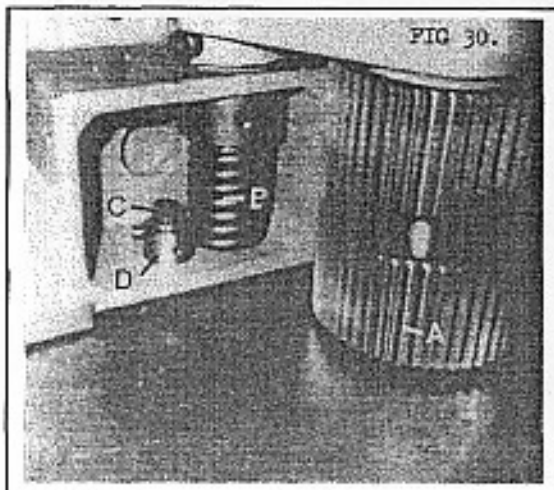

Fig 30
To adjust spring pressure on feed roller 'A' (Fig 30)
1. Loosen caphead 'C' (FIG 30)
2. Rotate cam 'D' (FIG 30) to increase or decrease tension on spring 'B' (FIG 30).
3. Tighten caphead 'C' (FIG 30).
4. Check tension by pushing feed roller 'A' (FIG 30) back by hand.